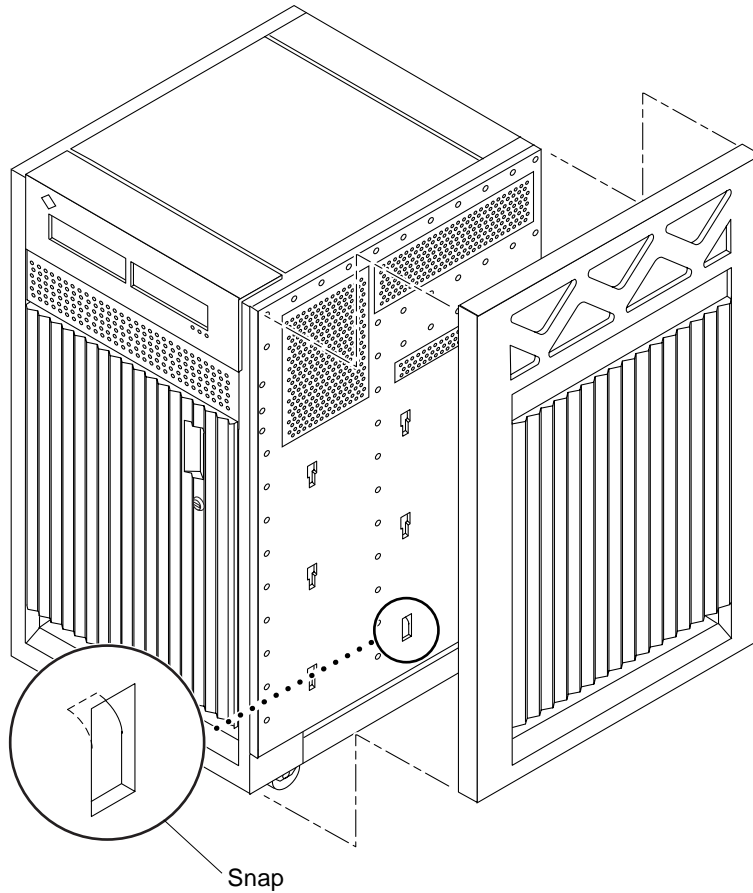

FIGURE E-4 Removing the Side Panel
- Lift the side panel up and then lift the panel out (FIGURE E-4).